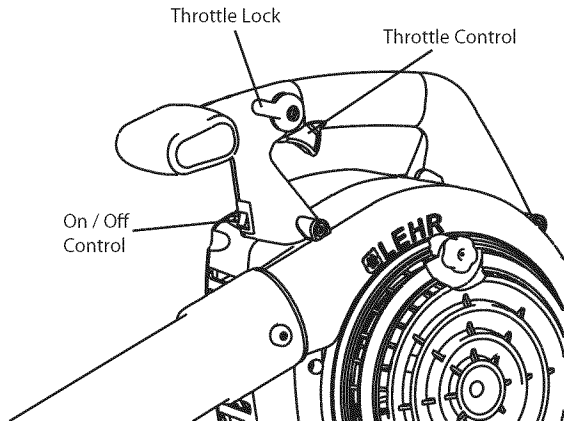

Fig. 9
2. Turn switch to ON position (Fig. 9).